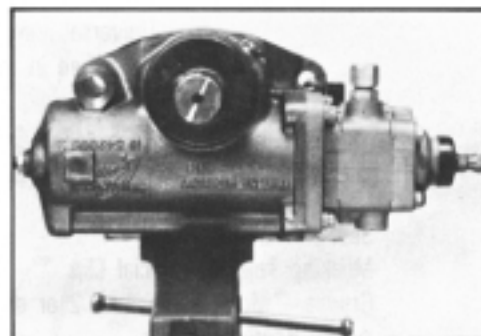

Figure 43
1. Position the steering gear firmly in a vise, clamping against the housing (55) mounting flange or boss, with the worm shaft (23) in a horizontal direction and components accessible for disassembly. SEE FIGURE 43.